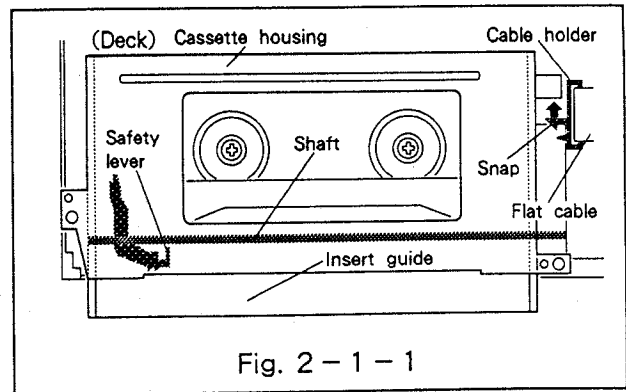

Fig. 2-1-1
2-1-1 Removal (Refer to Fig. 2-1-1~2-1-2.)
- Unfasten the snap of the cable holder and remove the cable holder from the cassette housing as shown in Fig.2-1-1.
2-1-2 Installation (Refer to Fig.2-1-1~2-1-3.)
- Slowly lower the cassette housing onto the main plate of the deck so that the safety lever enters between the insert guide and the shaft as shown in Fig.2-1-1. Align the two positioning holes (e and f) and the two U holes (g and h) located on the cassette housing with the matching holes in the deck.